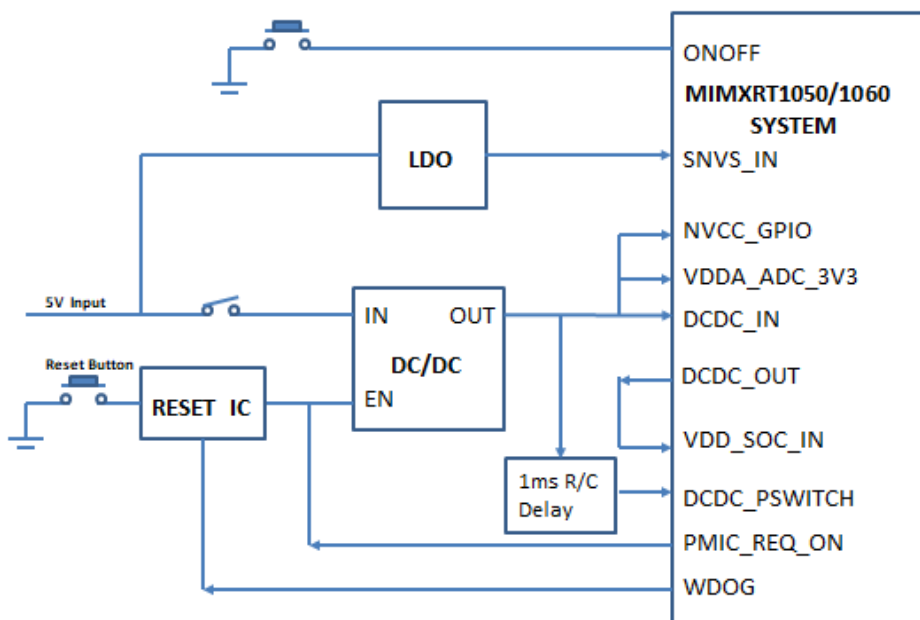

Figure 2. Power control diagram
- For IMXRT1050-EVKB /MIMXRT1060-EVK, see Figure 2.